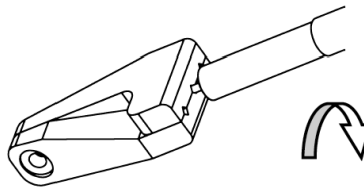

Fig. 3
3. Remove dielectric residue from center conductor exposed beyond cable outer conductor. Use care not to scratch surface by using an approved non-metallic center conductor cleaning tool or a Plexiglas scraper with squared or serrated edge works well, (Figure 3). Repeat steps 1, 2 and 3 for other cable end.